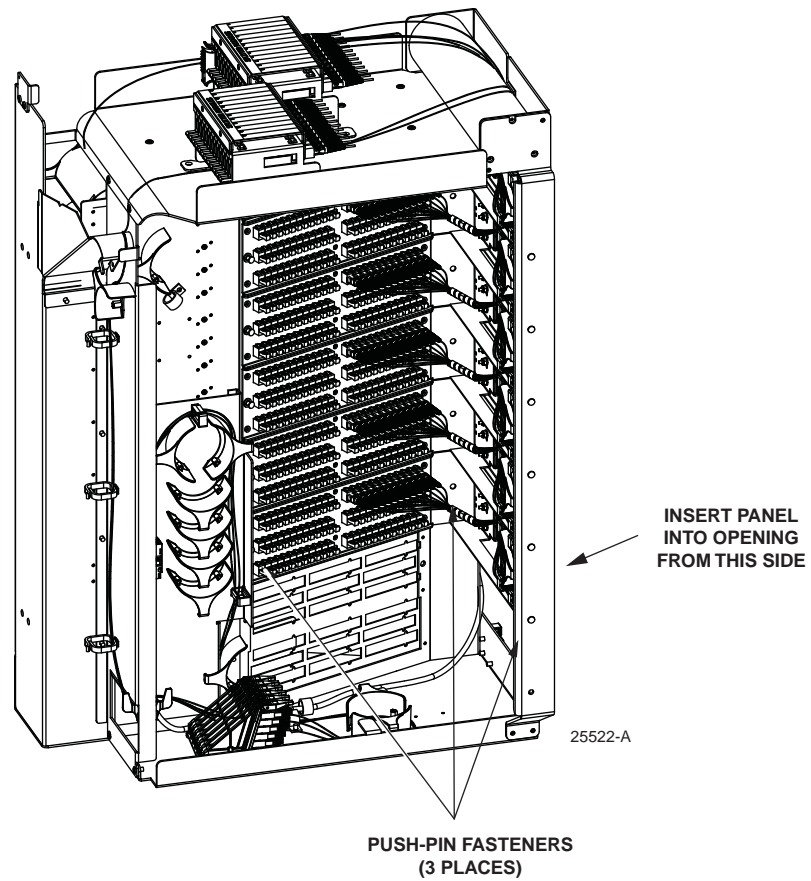

Figure 22. Placing Distribution Panel In Position For Mounting
9. Place the distribution panel in position for mounting on the **rear** side of the swing-out shelf assembly as shown in Figure 22. Use the plastic push pins provided to secure the distribution panel to the rear side of the swing-out shelf.